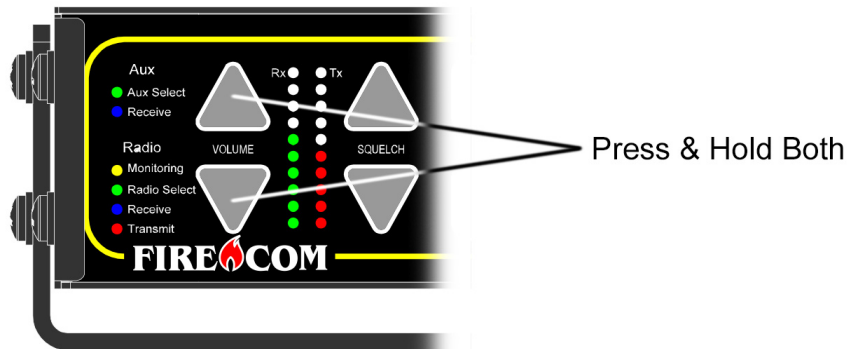

Figure 18
1. To enter **Device Gain Adjust Mode**, simultaneously press and hold Volume up and Volume down buttons for 5 seconds. (FIGURE 18)